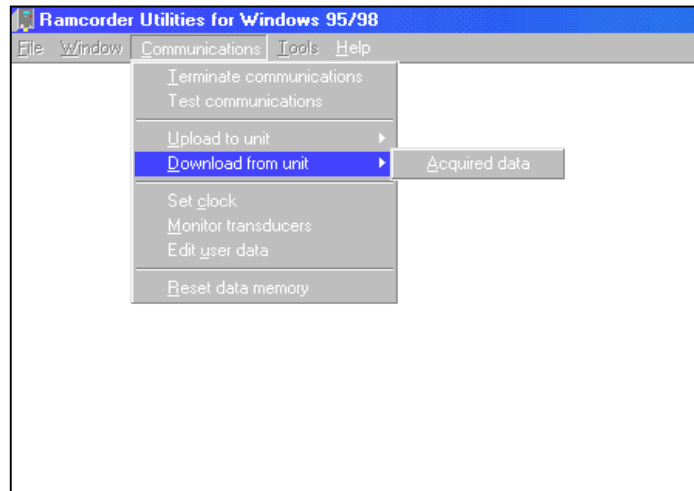

Figure 6
- 1) Select ‘Communications’, ‘Establish Communications’, ‘Download from Unit’, and ‘Acquired Data’. See Figure 6. A filename will be requested for the data. The